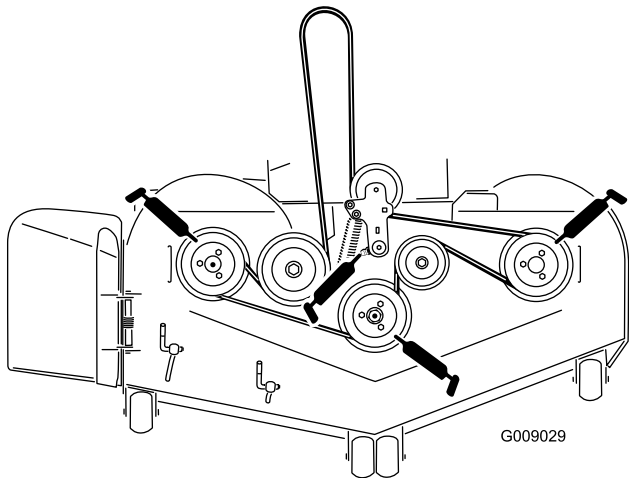

Figure 37
3. Grease the mower deck idler pulley pivot until grease come out the bottom (Figure 37).
4. Grease the fittings on the top of the 3 spindle bearings until grease come out the bottom (Figure 37).
5. Grease the drive belt idler arm (Figure 37).